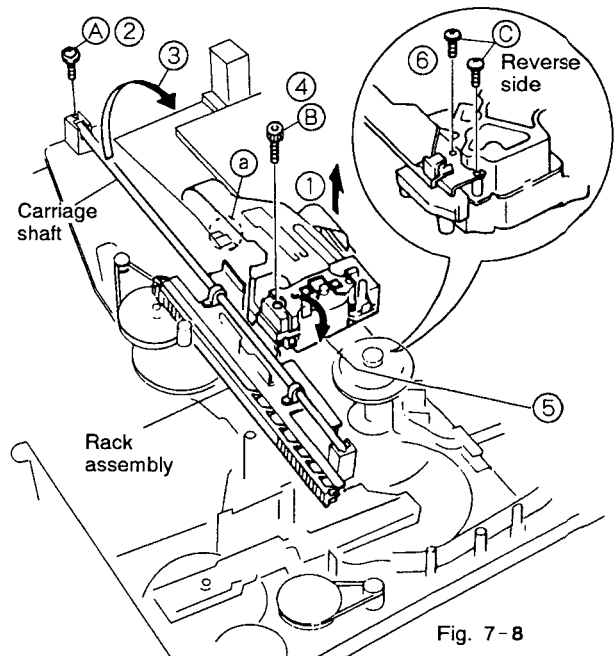

Fig. 7-8
**7.6 REMOVING THE PICKUP ASSEMBLY (Fig. 7-8)**
- ① Remove the flexible cable from the connector and also remove the flexible cable installed at section (a).
- ② Remove a screw (A) holding the carriage shaft.
- ③ Raise the shaft in the direction of the arrow to remove the rack assembly.
- ④ Remove a hexagonal screw (B) and lift up the pickup assembly slightly and turn the pickup assembly in the direction of arrow (5).
- ⑤ Remove two screws (C) on the back of the pickup assembly.